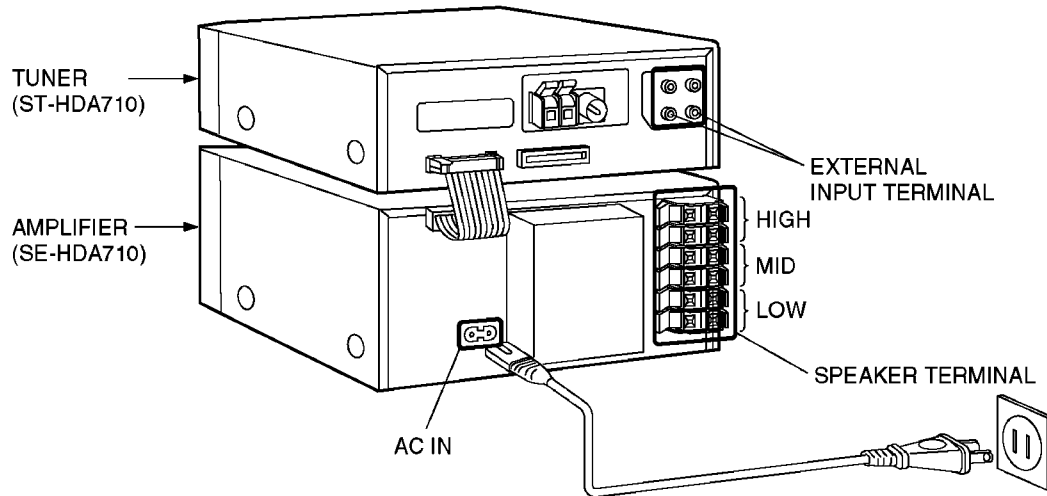

Fig. 1
1. Connect with the Tuner (ST-HDA710). (As shown in Fig. 1)
2. Connect the AC mains lead to Amplifier (SE-HDA710). (As shown in Fig. 1)
3. Connect the speakers to speaker terminal. (As shown in Fig. 1)